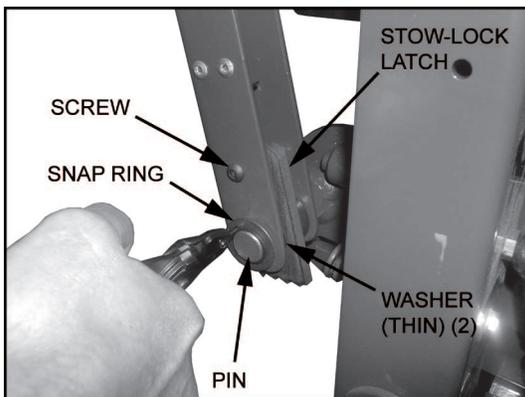

FIGURE 3-26
5. Refer to **Figures 3-26** and **3-27**. Detach snap ring from pin then remove washer and split washer. Retain for installation.
NOTE: Refer to **Figures 3-26** and **3-27**. When removing knuckle arm assembly from platform pin, detach 2 thin plastic washers and one thick plastic washer. Retain for installation.